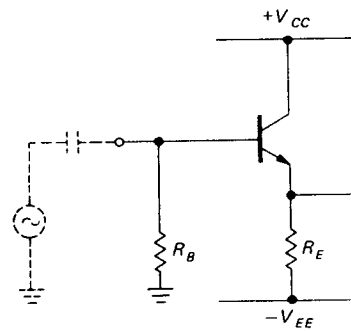

Figure 2.18
**Warning:** You must always provide a dc path for base bias current, even if it goes only to ground. In the preceding circuit it is assumed that the signal source has a dc path to ground. If not (e.g., if the signal is capacitively coupled), you must provide a resistor to ground (Fig. 2.18).  $R_B$  could be about one-tenth of  $h_{FE}R_E$ , as before.